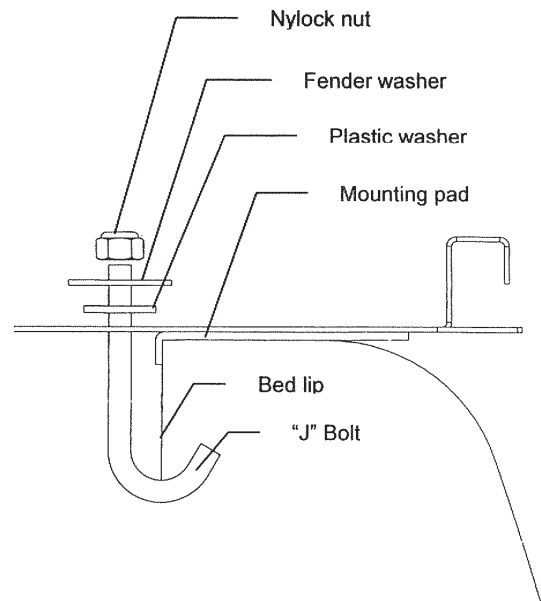

Fig. 3
11. Fasten the legs to the toolbox and install the box into the truck bed. Fasten the leg feet to the floor and install the "J" bolts as shown in Figure 3.